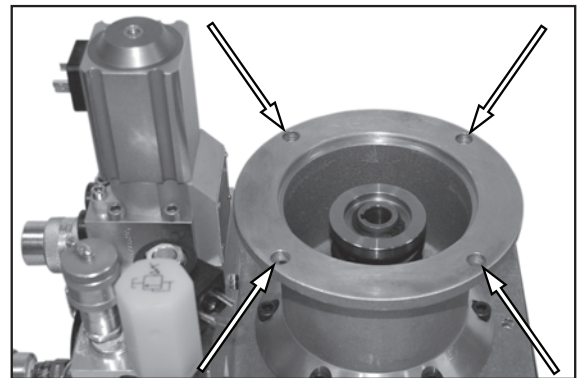

Figure 69.
6. See Figure 69. The orientation of the motor mount holes is very important. Position the mount so the holes are located as shown. Install the motor mount bolts.